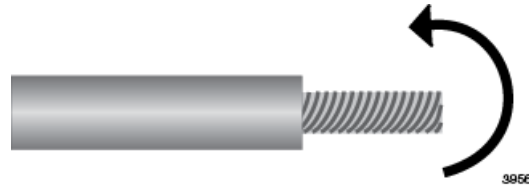

Figure 36. Wrapping the Wire Strands
2. Tightly wrap the wire strands with your finger tips. Refer to Figure 36 on page 85.